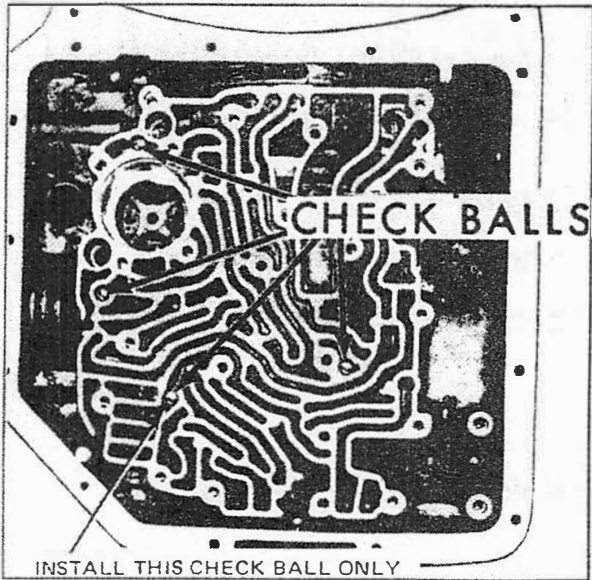

Fig. 4
11. Install one (1) check ball in case as shown in Fig. 4, using vaseline to hold it in place. Discard the other three (3) check balls.